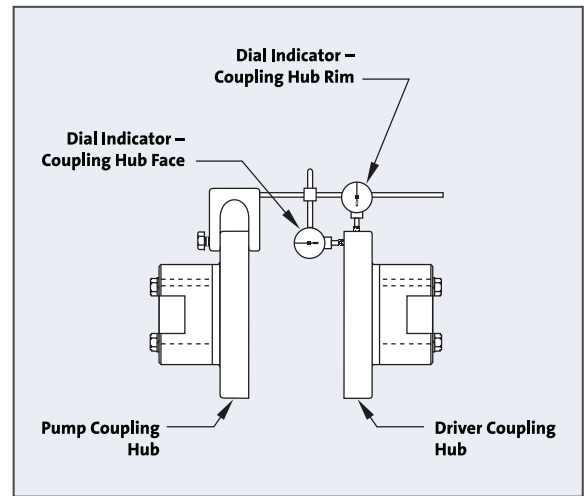

Figure 11. Rim and Face Indicator Setup
Figure 11 provides a view of the set up of the Rim and Face Method. The indicator bar can also be mounted on the pump shaft if room allows.
- a. Set up the dial indicators as shown in *Figure 11*.
- a. The dial indicators should still be set up as shown in *Figure 11*.